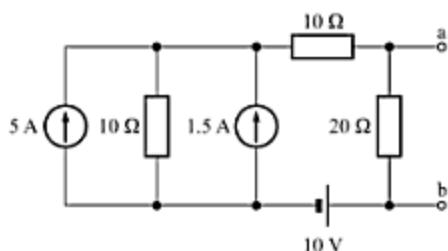

Fig. 3.75
16. Using source transformation, reduce the network shown in Fig. 3.75 to a single loop circuit and then determine current through the $20\text{-}\Omega$ resistor. [Ans. 1.375 A]